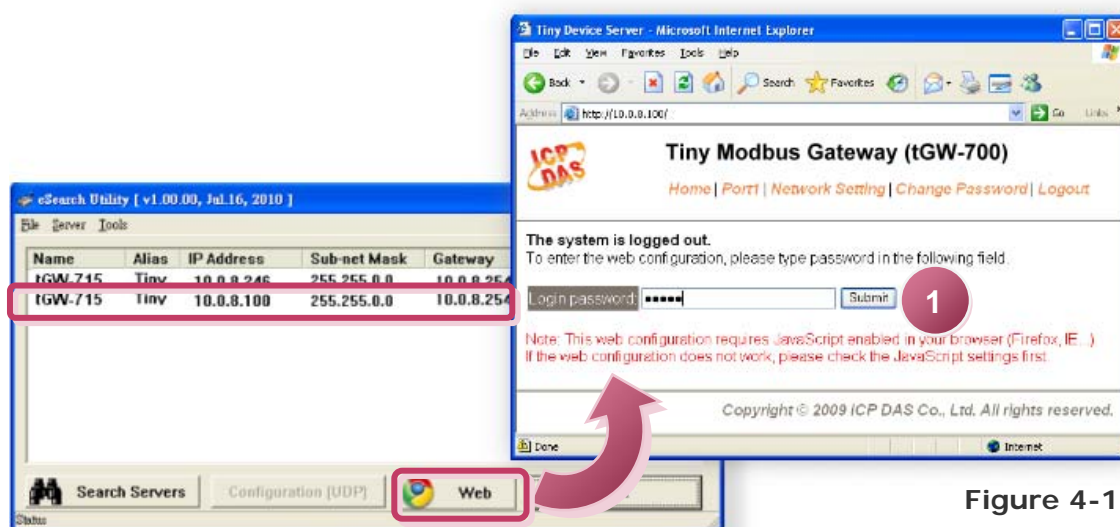

Figure 4-1
3. Set the Baud Rate to **“115200”**, data format to **“8, None, 1”** and Modbus protocol to **“Modbus RTU”**. (Refer to Figures 4-1~4-3 for illustrations of how to perform the above steps.)